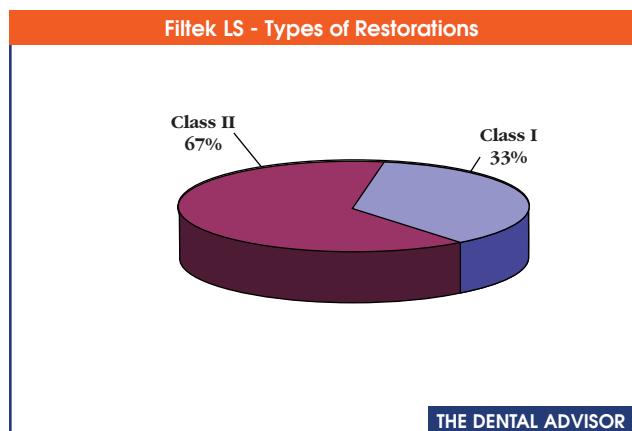

Figure 1
- Class I and Class II posterior restorations were placed (Figure 1).